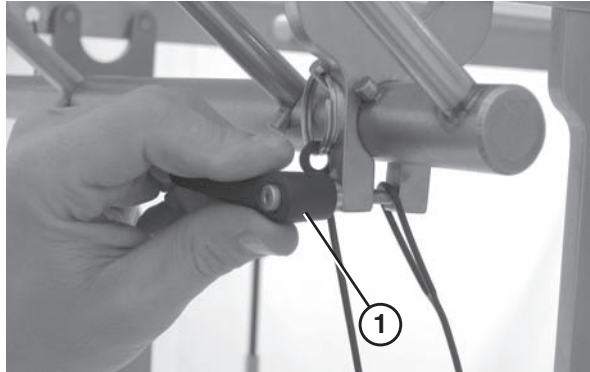

Figure 36
8. Secure the scraper by tightening the handle (Figure 36, item 1).